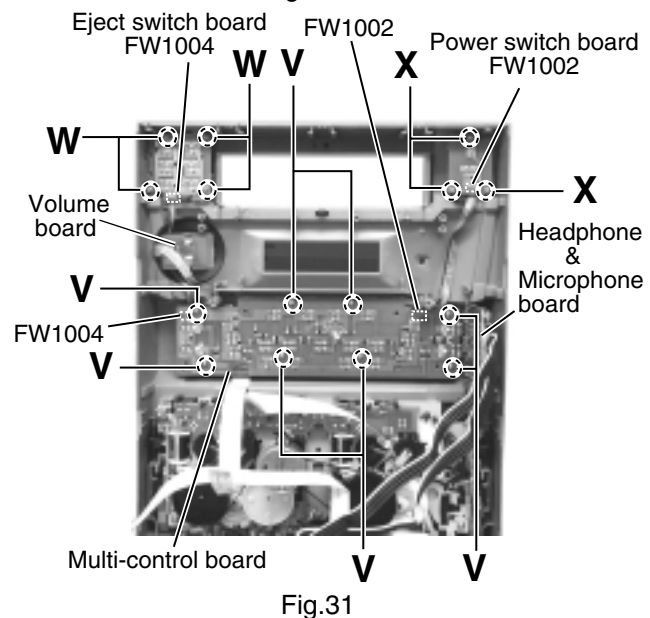

Fig.31
**■ Removing each board in the front panel assembly (See Fig.31 and 32)**
**~Removing the multi-control board~ (See Fig.31)**
**~Volume board~ (See Fig.31 and 32)**
**~Eject switch board ~ (See Fig.31)**
**~Power switch board~ (See Fig.31)**